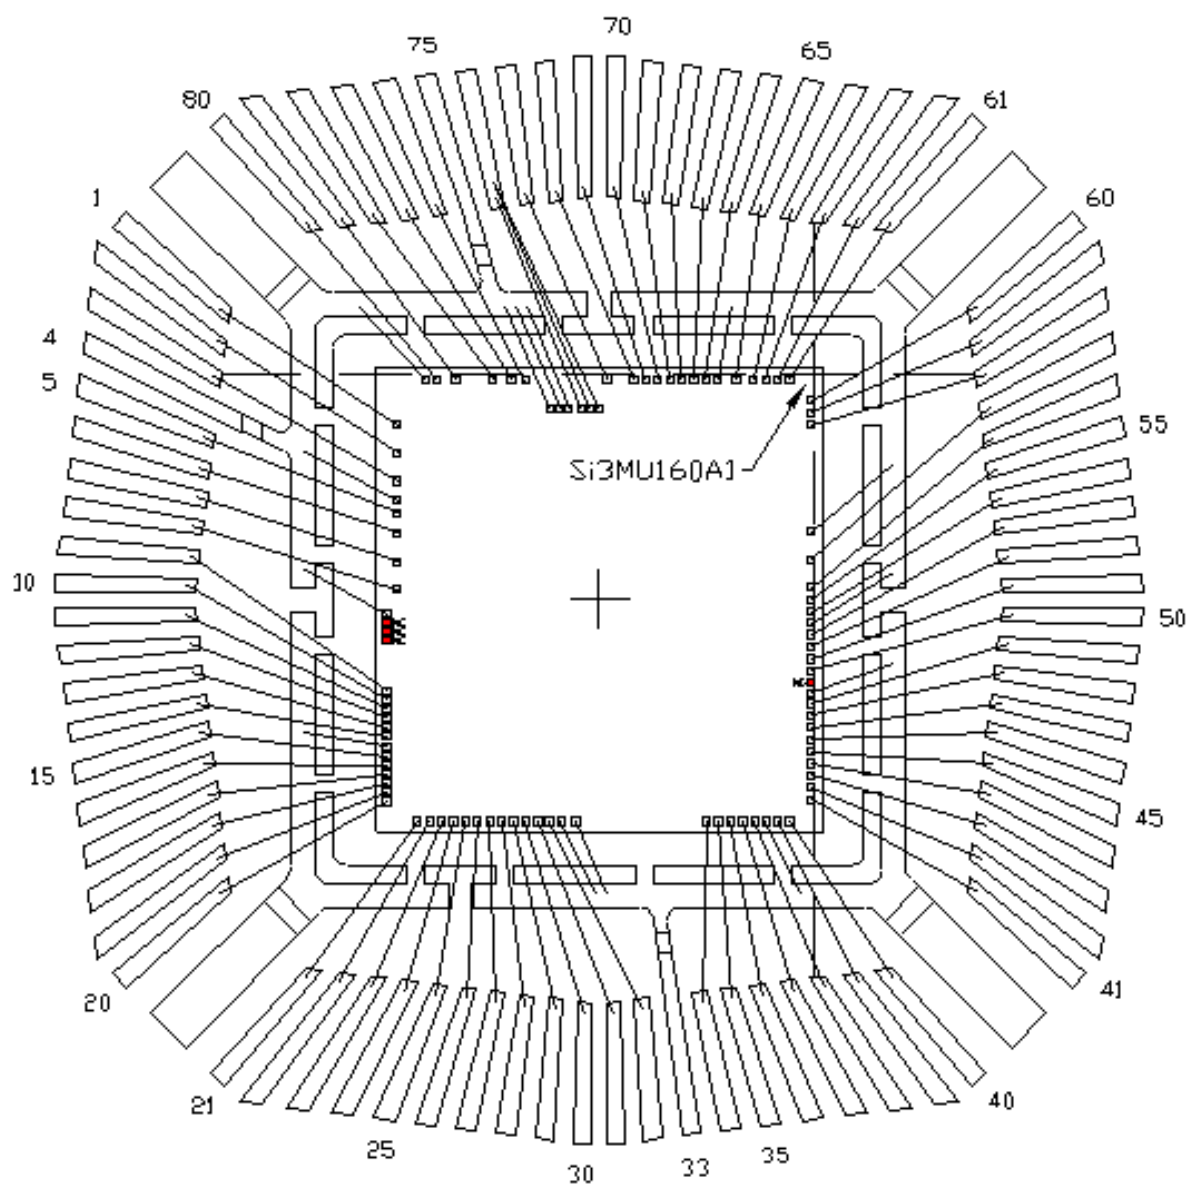

Figure 1. Example Die Bonding (TQFP-80)
- Corrected title of Figure 1 on page 12.